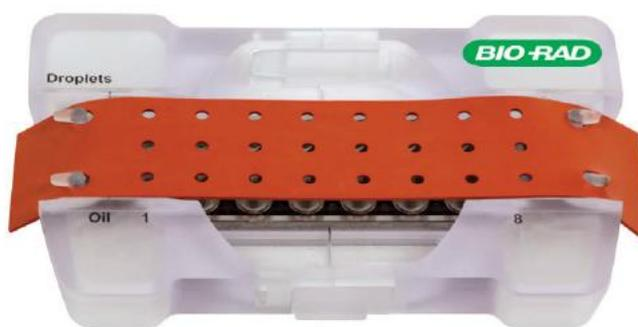

Figure 3. Correct placement of the gasket over the cartridge holder.
5. Hook the gasket over the cartridge holder using the holes on both sides. The gasket must be securely hooked on both ends of the holder (**Figure 3**).